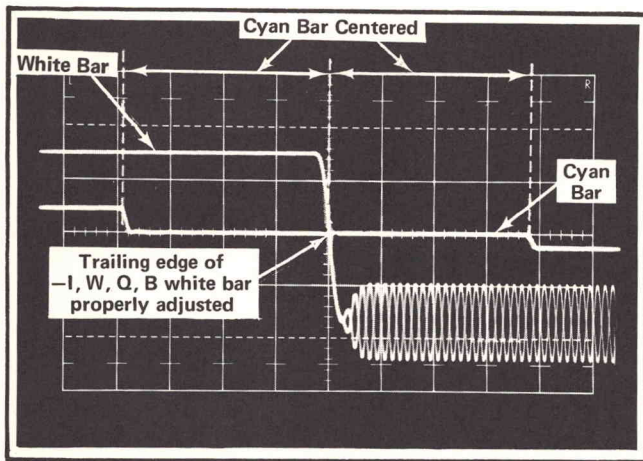

Fig. 5-31. Typical display used to adjust or check SPLIT FIELD bar timing.
i. Observing the test oscilloscope display, rotate the Horizontal Position controls to center the Full Field cyan luminance level bar left and right of the horizontal center graticule line, as shown in Fig. 5-31.